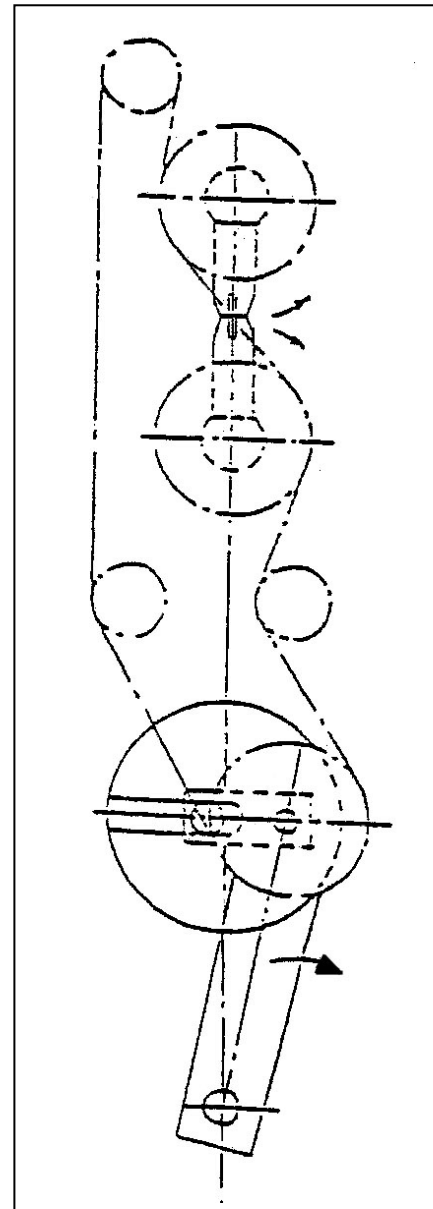

Figure 3-7
3. Loosen the set screws securing the knife and/or anvil "B" (Figure 3-7) to the crimpers and remove.
If the drive chain from the slowdown unit to the crimping head is removed, it may be necessary to reposition the pause phasing when the chain is reassembled. To do this, jog the machine over until the slot in the metadiametric drive (Figure 3-7), is in the horizontal position and the opening of the slot is facing the infeed conveyor. At this position of the metadiametric drive, the crimper faces should be in the vertical or "closed" position.